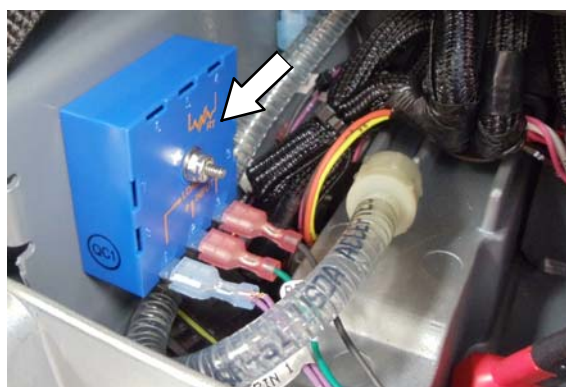

Fig. 4
5. Disconnect the wires connected to the timer module and remove module from machine (Figure 4).